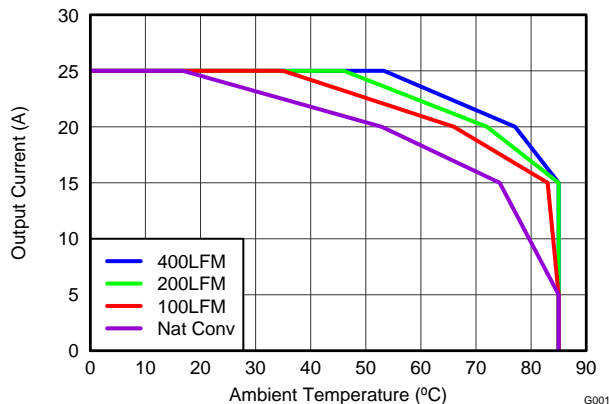
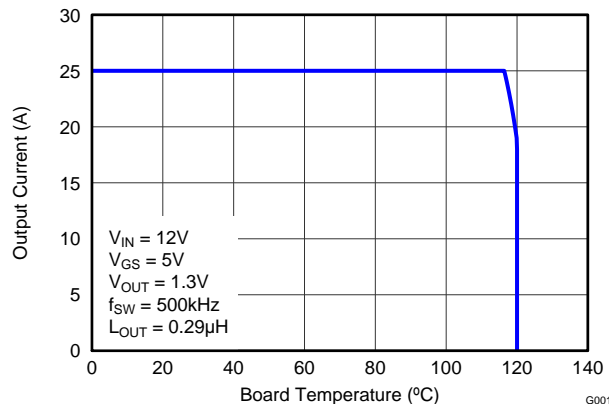

Figure 3. Safe Operating Area – PCB Horizontal Mount (1)
Figure 4. Typical Safe Operating Area(1)
The SOA curves in the CSD87588N data sheet provide guidance on the temperature boundaries within an operating system by incorporating the thermal resistance and system power loss. Figure 3 to Figure 4 outline the temperature and airflow conditions required for a given load current. The area under the curve dictates the safe operating area. All the curves are based on measurements made on a PCB design with dimensions of 4-inches (W) x 3.5-inches (L) x 0.062-inch (T) and 6 copper layers of 1-oz. copper thickness.